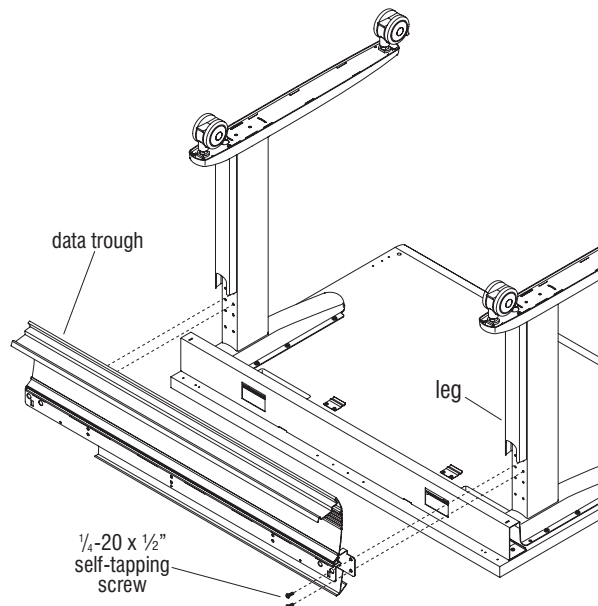

Figure 3
4. Attach data trough to legs as illustrated using $\frac{1}{4}$ -20 x $\frac{1}{2}$ " self-tapping screws. The set of holes used will depend on whether the trough is being attached to a shared or end-of-run leg (Figure 3).